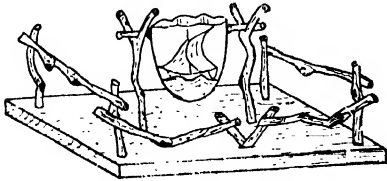

Fig. 241.—Trinket Holder.
**Half Shells, Broken Shells, etc.**—Half shells need not be thrown away; etch the outsides, strengthen the shell with two or three coats of enamel applied inside, and make a stand as shown in Fig. 241. The wooden base is 6 in. by 3 in. by  $\frac{1}{4}$  in.; the forked twigs are  $2\frac{1}{2}$  in. apart, and long enough to hinder the shell from touching the wood. It is handy for holding pins, and a rough fence of twigs will support small articles of jewellery. Broken shells can also be mounted on painted corks, cinders, wooden chips, etc., according to inclination, but one precaution is necessary: Do not leave them in the vinegar too long while etching